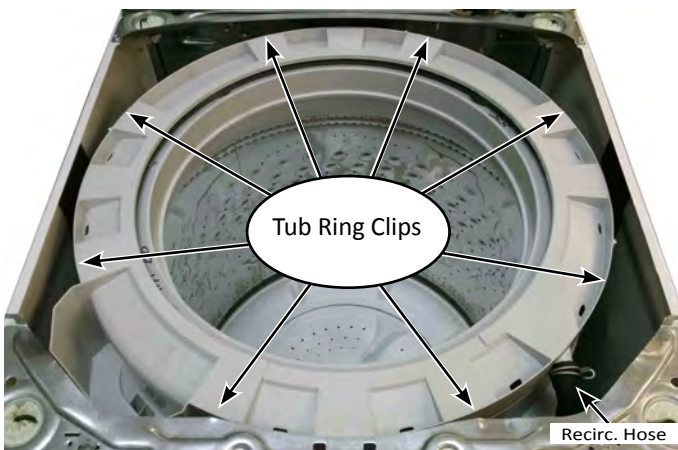

Figure 1
2. Locate the tub ring clips illustrated in Figure 1. Unclip each clip with a "stubby" flat blade screwdriver. Remove tub ring from washer.